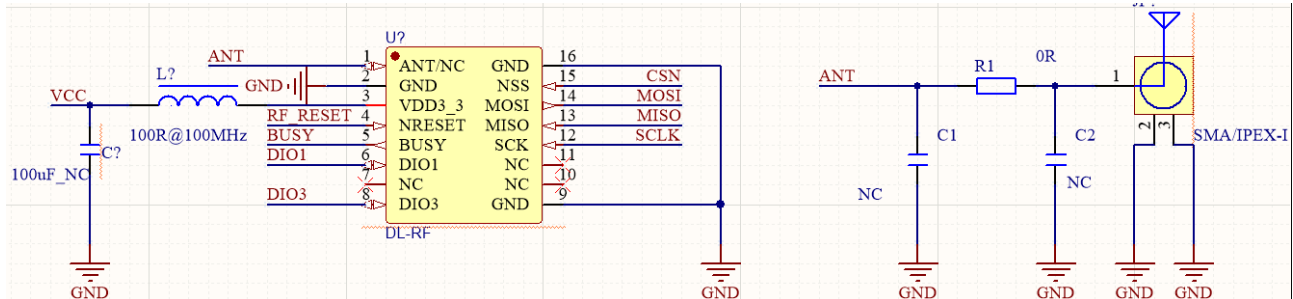

Figure 1: Reference Schematic Diagram of the RF Module
- 1) Please reserve a π -matching circuits as above **Figure 1** on your PCBA, for eventual RF performance optimization in antenna design.
- 6) The π type matching circuit is normally constituted of 3 components (as shown in Figure 1). When designing, the pad should be placed close to the antenna (as shown in the above figure 6). If the space between the antenna connector (SMA) and the RF pin of the module is not enough (impossible to place the three components of the π matching circuit), it can be changed to an L-shaped matching circuit.